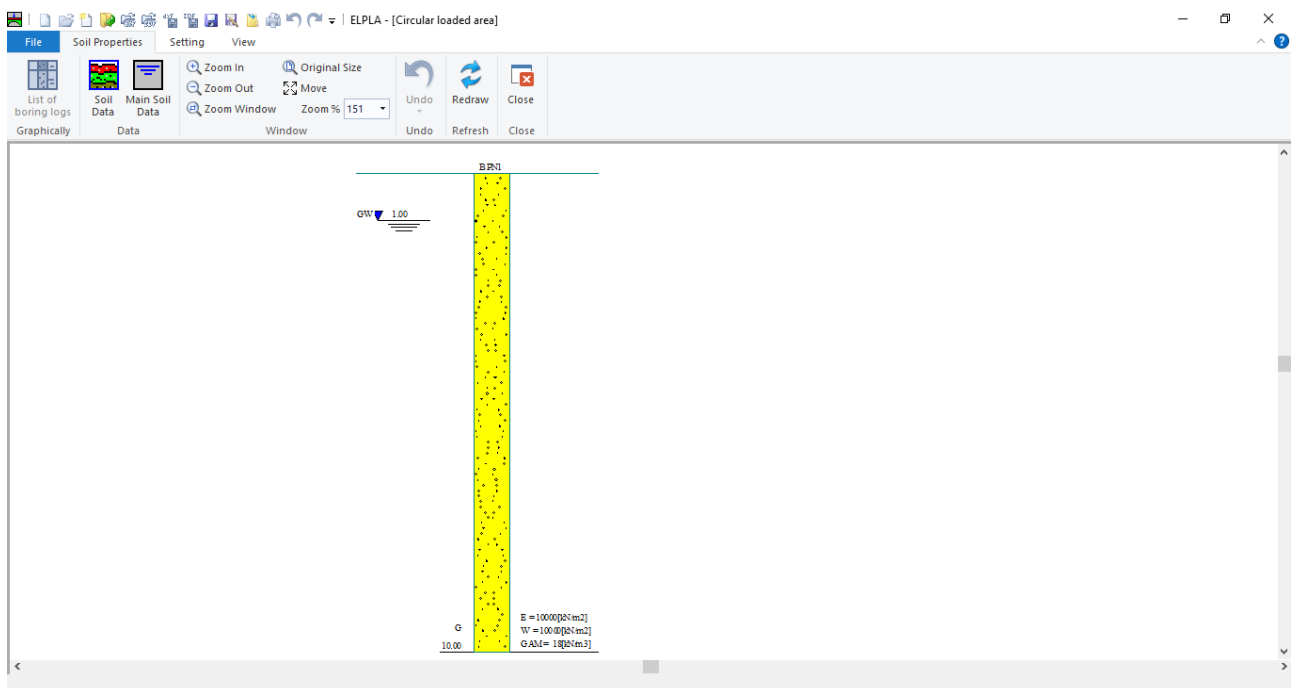
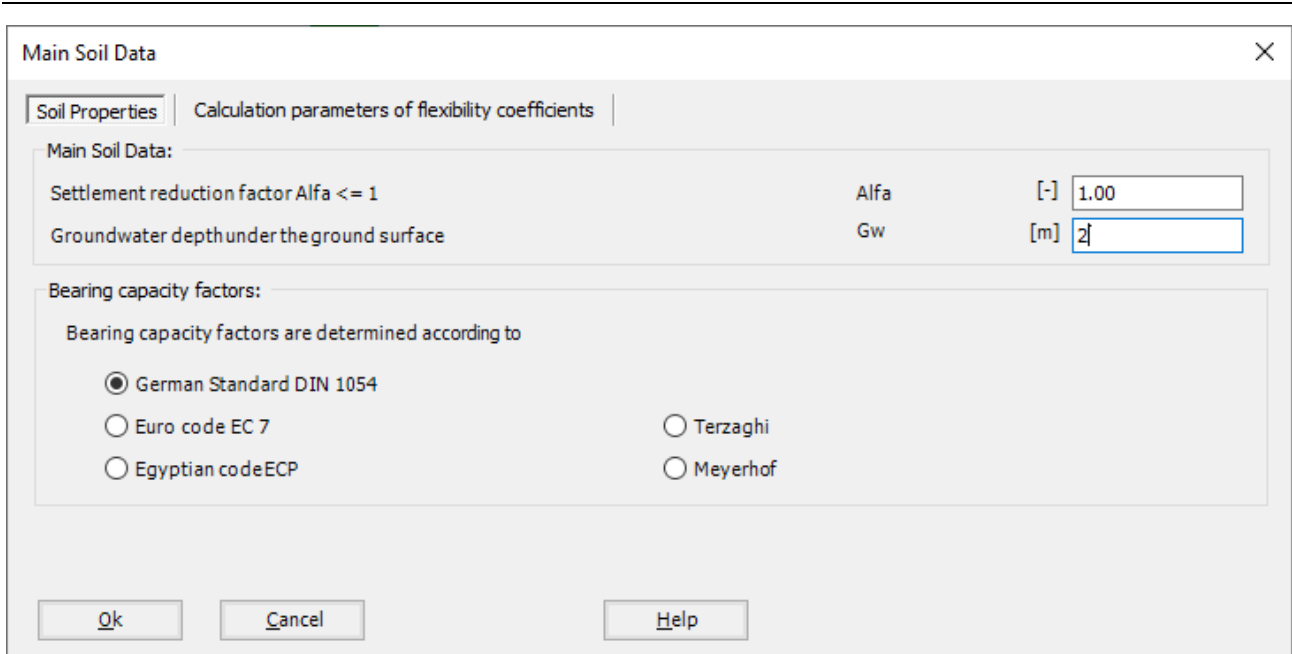

Figure 1.10 "Soil Properties" window with a default-boring log
Figure 1.13 "Main Soil Data" dialog box
To define the soil properties, choose "Soil Properties" command from "Data" Tab. The following "Soil Properties" Window in Figure 1.10 appears with a default-boring log.
In Figure 1.10, soil properties are defined through the "Data" menu, which contains the following two commands:
- Choose "Soil Data" command from "Data" menu in the window of Figure 1.10. The following dialog box in Figure 1.11 with default-boring log data appears
To enter the main soil data for all layers, choose "Main Soil Data" command from "Data" menu in Figure 1.10. The following dialog box in Figure 1.13 appears with default main soil data. The main soil data for the current example, which are required to be defined, are the settlement reduction factor  $\alpha [-]$  and the groundwater depth under the ground surface  $G_w [m]$ . Any other data corresponding to main soil data are not required for this example. Therefore, the user can use the default values.
In the dialog box of Figure 1.13, enter the settlement reduction factor  $\alpha [-]$  and the groundwater depth under the ground surface  $G_w [m]$ . Then click "OK" button.
- Choose "Save" command from "File" menu in Figure 1.10 to save the data of boring logs
- Choose "Close" command from "File" menu in Figure 1.10 to close "Soil properties" window and return to *ELPLA* main window